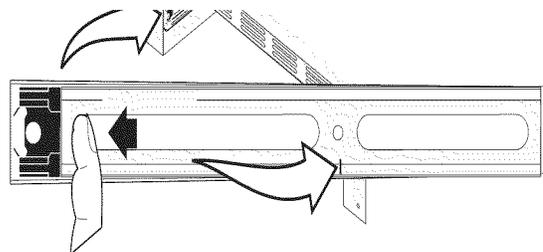

Figure 40: Warmer drawer channels
2. Carefully line up both sides of the warmer drawer glide rails to the outer compartment glide channels located inside the empty warmer drawer compartment (Figure 40).